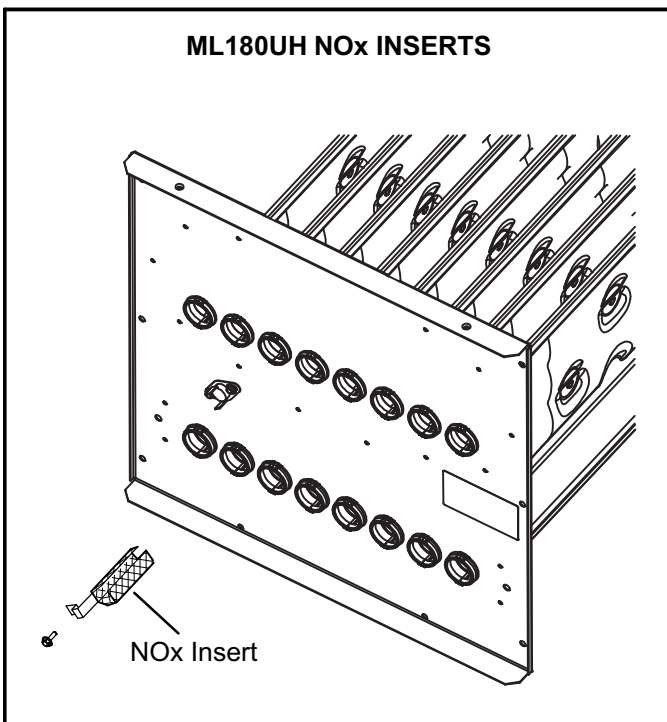

FIGURE 38
- 8 - **NOX units only** - Remove screw securing NOX insert. Remove NOX insert. See figure 38.